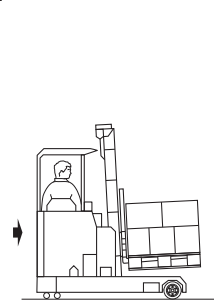

Figure 13
- (a) Approach the stack with the load low, reached in and tilted slightly backwards (Figure 13);